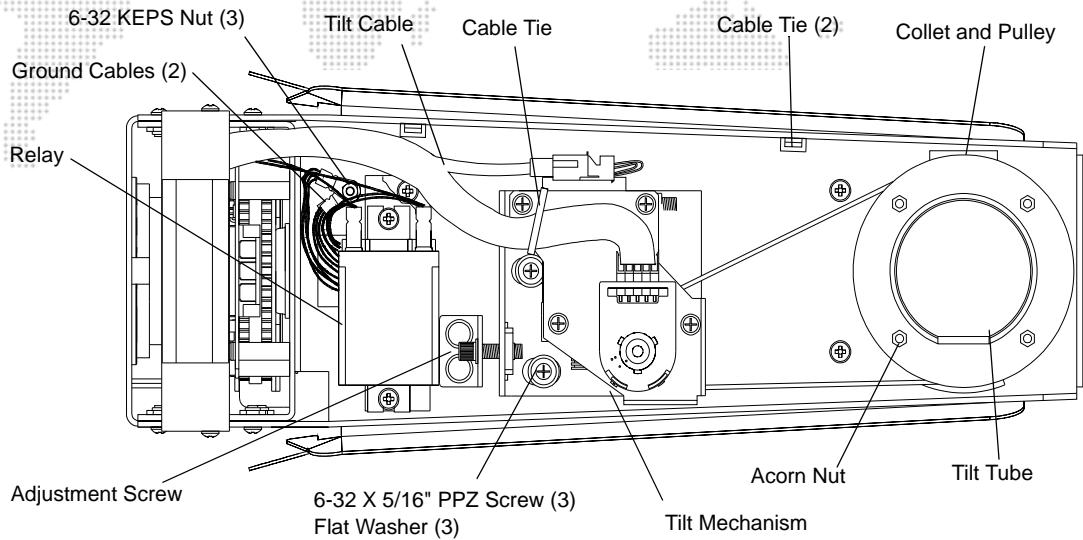

Figure 2-12: Disconnecting Wires at VL5Arc Tilt-Side Yoke Leg
- b. At tilt-side yoke leg, using diagonal cutters, remove cable tie securing tilt cable to tilt mechanism. **Figure 2-12.**
- d. Using diagonal cutters, remove cable ties securing lamp/ground wires to two yoke leg cable anchors. **Figure 2-12.**